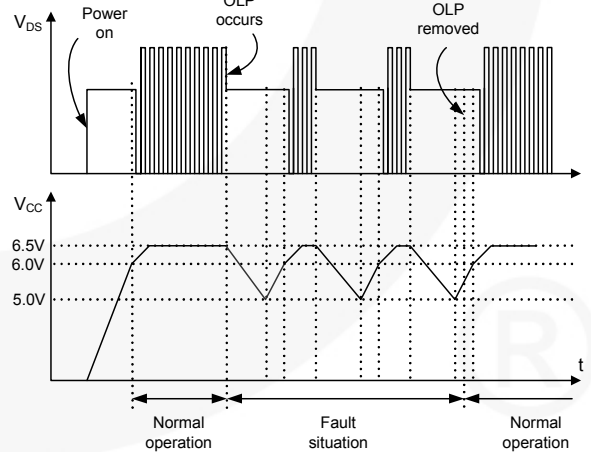

Figure 17. Auto Restart Protection Waveforms
**3. Protection Circuits:** The FSQ500L has two self-protective functions: overload protection (OLP) and thermal shutdown (TSD). While OLP is implemented as auto-restart mode, there is no switching when TSD triggers. Once the overload condition is detected, switching is terminated, the senseFET remains off, and HV/REG turns off. This causes  $V_{CC}$  to fall. When  $V_{CC}$  falls below the under voltage lockout (UVLO) stop voltage of 5.0V, the protection is reset and the startup circuit charges the  $V_{CC}$  capacitor. When  $V_{CC}$  reaches the start voltage of 6.0V, the FSQ500L resumes its normal operation. If the fault condition is still not removed, the senseFET and HV/REG remain off and  $V_{CC}$  drops to  $V_{STOP}$  again. In this manner, the auto-restart can alternately enable and disable the switching of the power senseFET until the fault condition is eliminated, as shown in Figure 17.